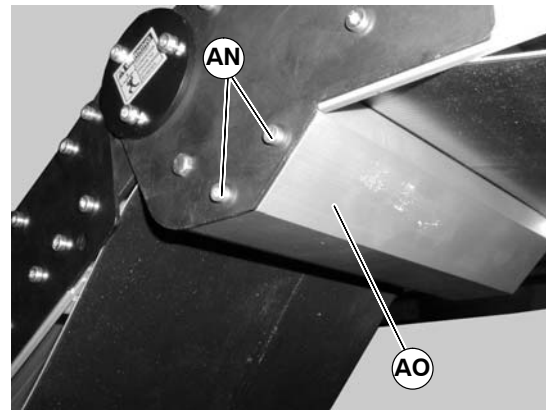

Figure 29
- Install knuckle guard (AO of Figure 29) with screws (AN) on both sides of knuckle. Tighten screws to 25 in-lbs (3 N-m).